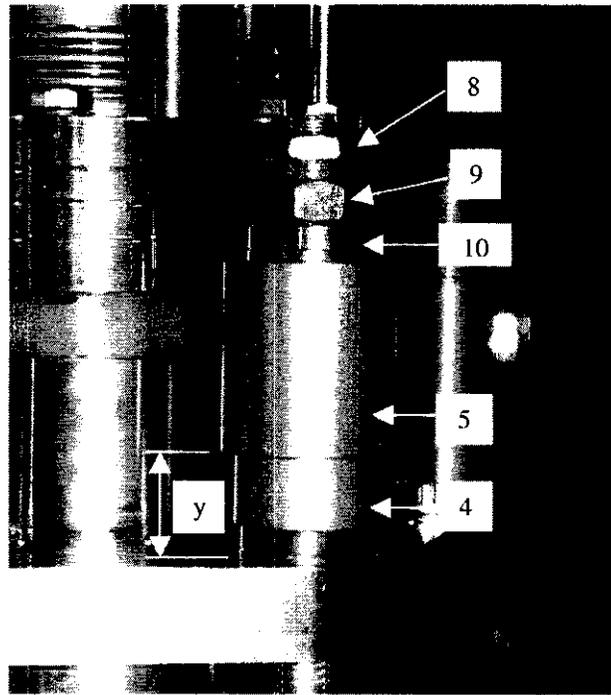
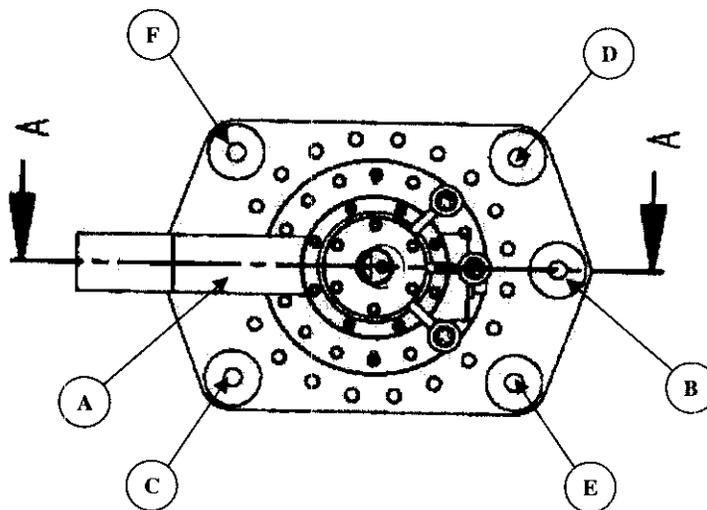

Figure 1.28a An installed Belleville Washer Assembly.
Figure 1.29.1.5 The specified sequence for tightening the Belleville Washer Assemblies.
- 1.28 Install Belleville Washer Assemblies on each tensioning stud per Figures 1.28a and 1.28b. A spherical washer must be placed below the Belleville washer holder on each stud. In the figures: Items 11 (10 each) are Belleville Washers, arranged as shown; Items 6 (2 each) are flat washers; Items 4 and 5 are the Belleville Washer Holder; Item 10 are Spherical Washers for above and below the washer holder; Item 9 is a loading nut; and Item 8 is a jam nut.
- 1.29.1.2** Tighten the 6 loading nuts finger-tight. With adjustable parallels, measure and record the gap "y" indicated in Figure 1.28a between Item 5 and the current lead top flange at the 6 locations specified in Figure 1.29.1.5. Units are mm.
- 1.29.1.4** Using the sequence A through F in Figure 1.29.1.5, tighten the loading nuts 1/4 turn until the total compression is 1.8 mm at each of the six locations. As each loading nut is tightened 1/4 turn, check off the appropriate line.
1.29.1.5 Record the final measured gaps 'y' in Figure 1.28a. Units are mm.
1.29.2.2 Tighten the 6 loading nuts finger-tight. With adjustable parallels, measure and record the gap "y" indicated in Figure 1.28a between Item 5 and the current lead top flange at the 6 locations specified in Figure 1.29.1.5. Units are mm.
1.29.2.4 Using the sequence A through F in Figure 1.29.1.5, tighten the loading nuts ¼ turn until the total compression is 1.8 mm at each of the six locations. As each of the loading nuts is turned ¼ turns, check off the appropriate line.
1.29.2.5 Record the final measured gaps 'y' in Figure 1.28a. Units are mm.